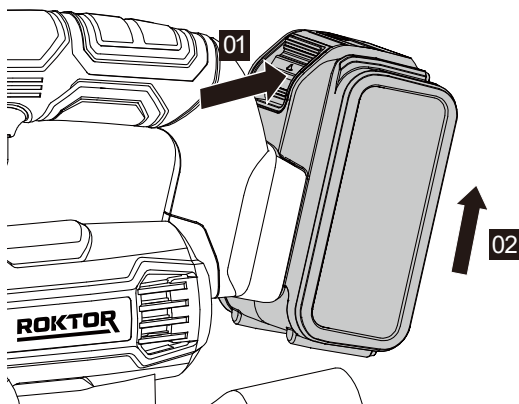

Figure 5-1
5. REMOVING & INSTALLING THE BATTERY PACK (NOT SUPPLIED) (SEE FIG. 5-1 & 5-2)